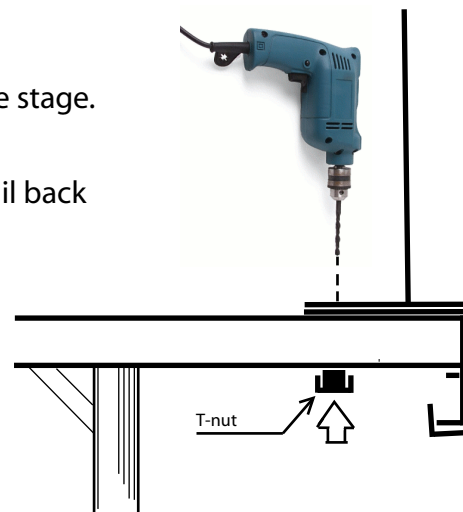

Figure 2
Step 2: Using the 3/8" Diameter holes in the guard rail bracket as a guide, drill a 3/8" hole into the stage top at each bracket location as pictured in Figure 2.